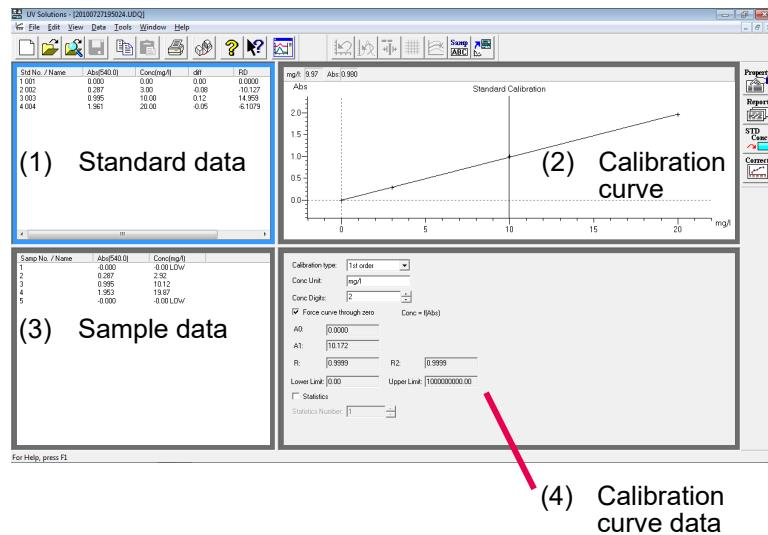

Fig. 4-69 Data Processing Window (photometry)
Upon completion of photometry or opening of a data file, a data processing window as shown in Fig. 4-69 is displayed.
- (1) Click in the spectrum display, and the circumference will turn blue. In this status, click the  (Print) button on the Standard toolbar. (Or from the File menu on the menu bar, select the Print command.) In this case, the active field in the data processing window (field (2) in Fig. 4-69) will be printed. What is displayed by clicking the Print Preview command in the File menu will be printed.